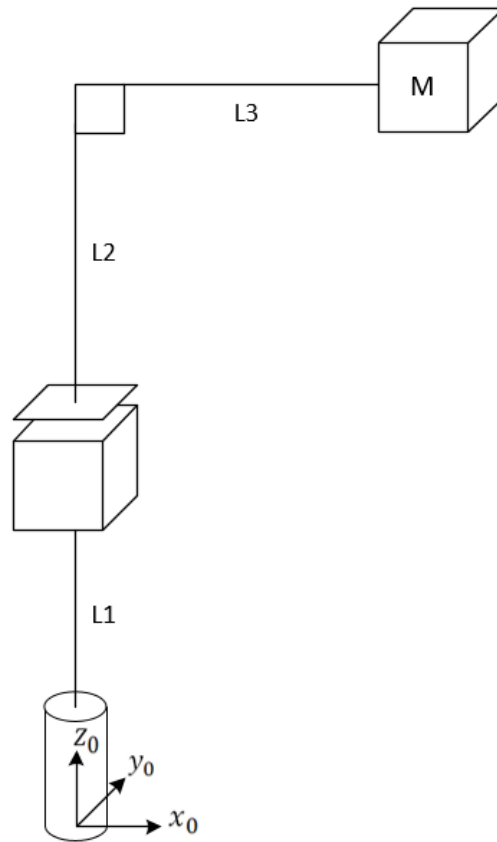

Figure 3: Simplified robot
Figure 3 shows a robot with two degrees of freedom. This is a simplification of the robot in exercise 2. Assume that the only mass is a point mass of M at the tool of the robot. We will not be considering the forces generated by the systems inertia.
- (10 %) Find the Lagrangian \mathcal{L} of the robotic system in Figure 3.